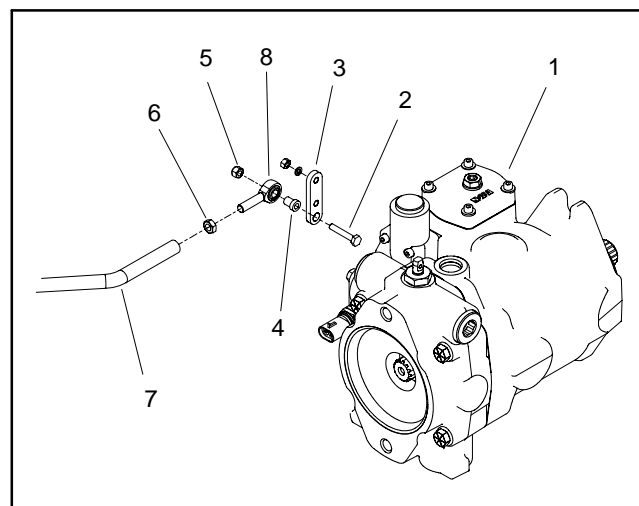

Figure 69
4. Remove traction rod from control arm on piston pump by removing lock nut, spacer and cap screw (Fig. 69).
10. Support the piston pump to prevent it from falling while removing two (2) cap screws and washers retaining pump assembly to engine flywheel plate. Carefully pull pump assembly from flywheel plate and raise it out of the machine.
2. Apply Loctite #242 (or equivalent) to threads of cap screws (item 6) used to secure piston pump to engine flywheel plate.
3. While maintaining pump alignment with spring coupler and flywheel plate, install two (2) cap screws and washers to secure piston pump to engine. Torque screws from **79 to 84 ft-lb (108 to 113 N-m)**.
5. Position traction rod to control arm on piston pump by installing cap screw, spacer and lock nut (Fig. 69).
10. Disconnect engine run solenoid electrical connector to prevent engine from starting. Prime pumps by turning ignition key switch to crank engine for ten (10) seconds. Let starter cool and then repeat cranking procedure again.